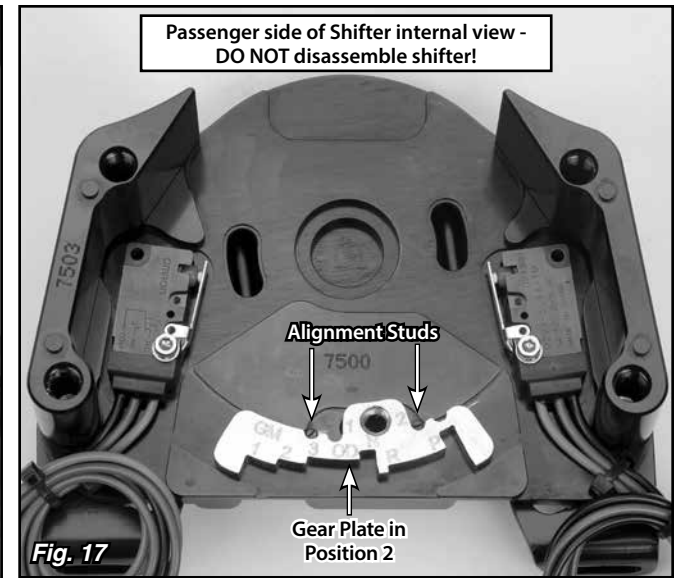
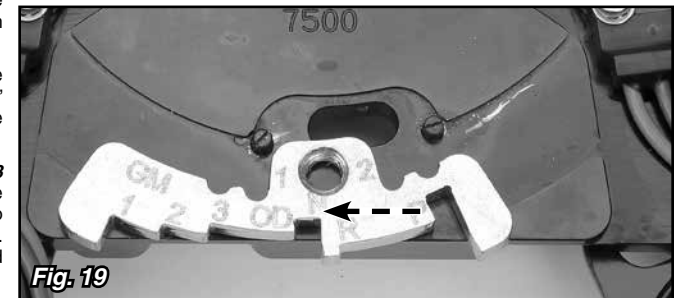
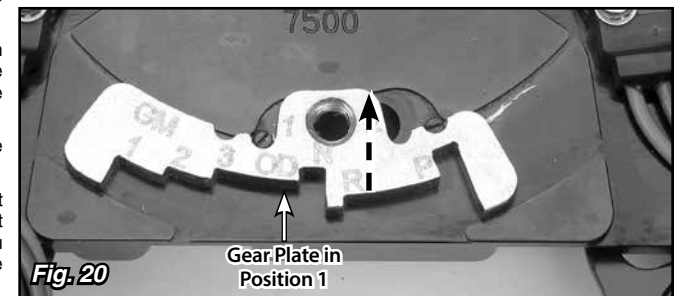

Fig. 17
Fig. 19
Fig. 20
The Shifter in Fig. 17 through Fig. 20 has been disassembled ONLY FOR PHOTOGRAPHIC CLARITY. DO NOT disassemble the Shifter for this procedure!
Step 5: Note the relationship of the notches in the top of the gear plate to the alignment studs protruding from the side plate in Fig. 17. There is a "1" and a "2" on either side of the gear plate bolt hole. In Fig. 17, the "2" is closest to an alignment stud, showing the gear plate is in Position 2.
Move the gear plate to the left (Fig. 19) and then forward into its new position so the studs are in the other pair of notches. Now, the "1" on the gear plate is closest to an alignment stud (Position 1). Fig. 20